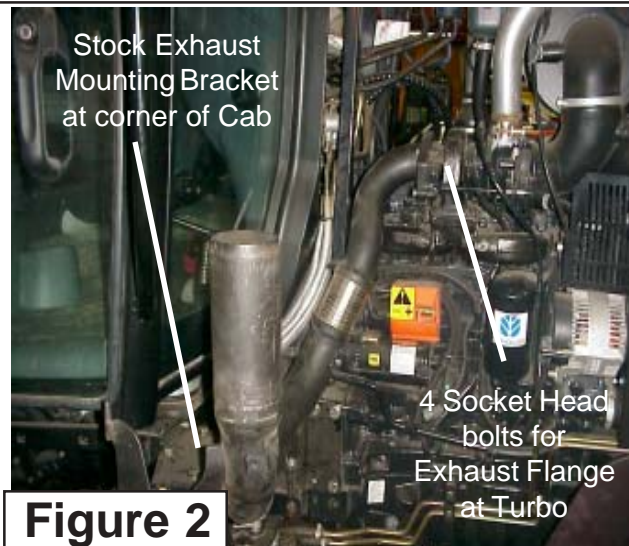

Figure 2
3. Remove Existing Exhaust Pipe to Turbo & Existing Exhaust Mounting Bracket. There are four socket head bolts that hold the exhaust flange to the turbo, these will need to be removed completely. There is a stock mounting bracket located at the outer corner of the cab that supports the exhaust pipe. This bracket will be removed also. (See Figure 2). Lay the Bracket and exhaust pipe aside as the kit will include replace Pipe, Bracket and Fasteners.